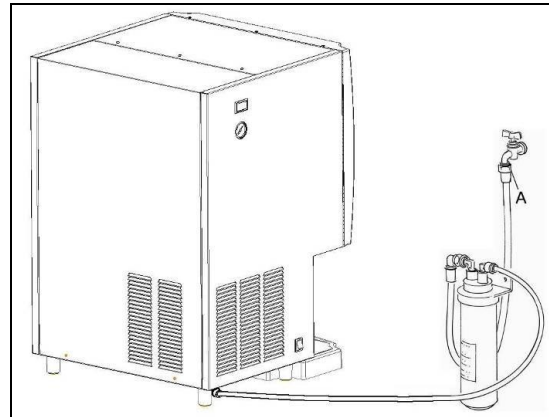

Fig. 25
- Shut the water connection down (Fig.25).